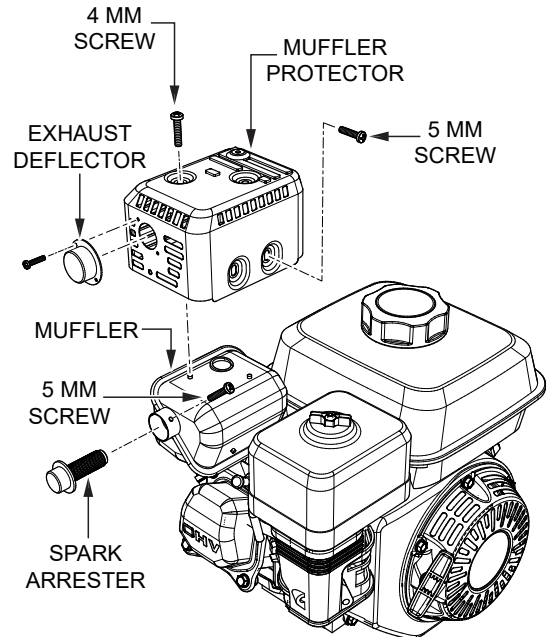

Figure 37. Spark Arrester
1. Remove the three 4 mm screws securing the exhaust deflector (Figure 37) to the muffler protector, then remove the exhaust deflector.
2. Remove the four 5 mm screws from the muffler protector (Figure 37), then remove the muffler protector.